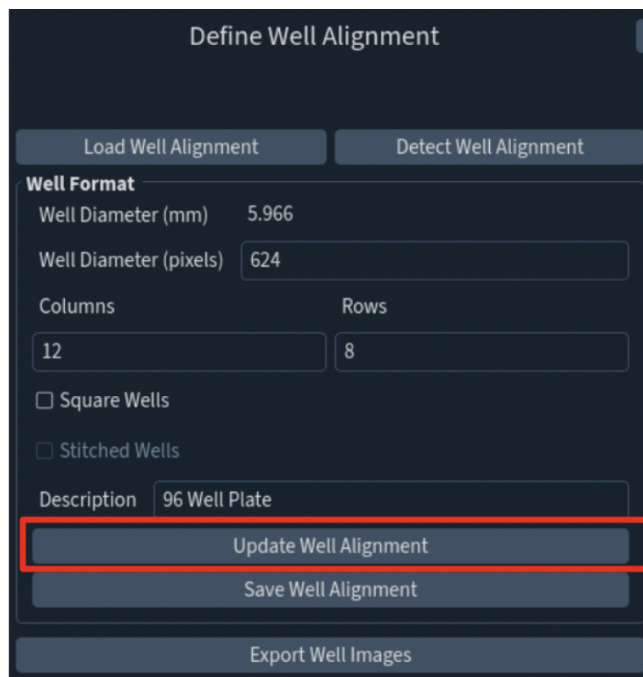

Fig 33: Well Alignment panel with “Update Well Alignment” option.
- 6) Once the four corner well indicators are aligned with the corner wells, click “Update Well Alignment” from the right panel to reposition the remainder of the indicator circles (Fig 33).